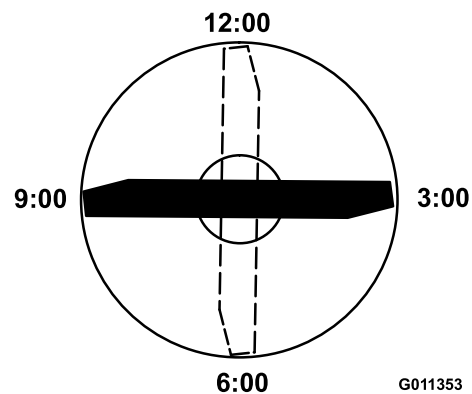

Figure 86
4. Position the cutting edge of the marked end of the blade at 12 o'clock (straight ahead in the direction of mowing) (Figure 86) and measure height from table to cutting edge of blade.
5. Rotate the marked end of the blade to the 3 and 9 o'clock positions (Figure 86) and measure the heights.